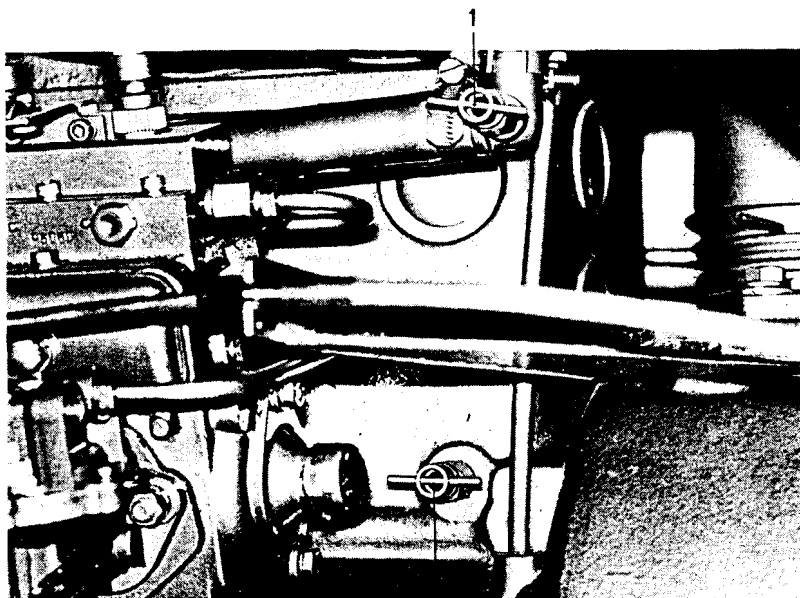

Fig. 23 Drain cocks for cooling water.
2. Open the cooling water draincocks on the engine block and exhaust (fig. 23).